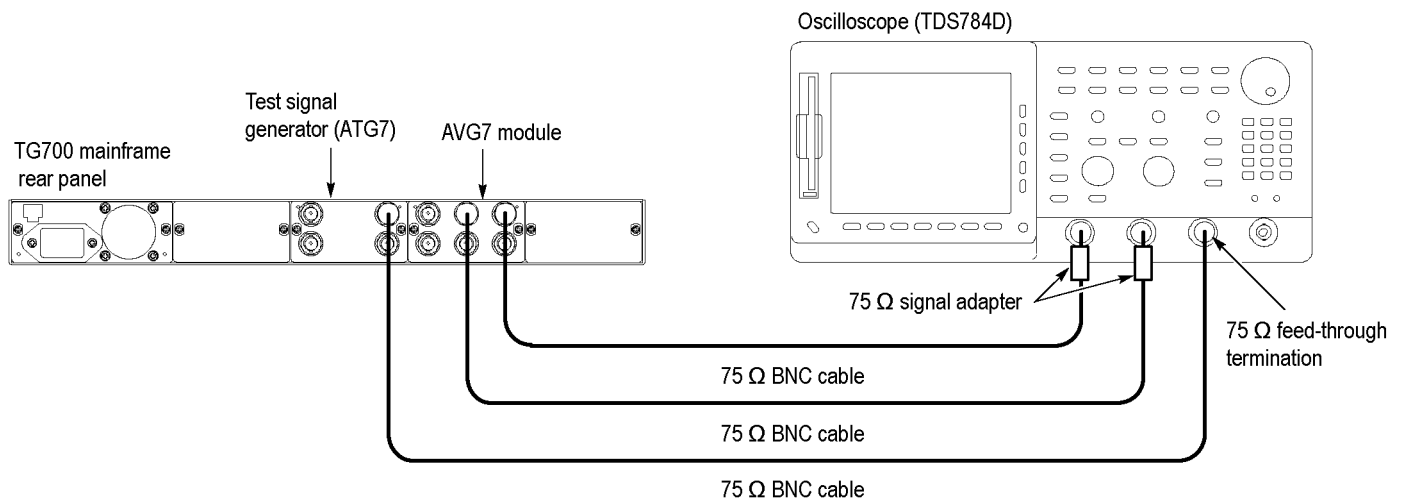

Figure 15: Equipment connection for verifying the channel-to-channel delay
1. Use the 75 Ω BNC cable and the 75 Ω signal adapter to connect the upper CH 1 connector on the AVG7 Generator module to the CH 1 input connector on the oscilloscope as shown in the following figure. (See Figure 15.)
2. Use the 75 Ω BNC cable and the 75 Ω signal adapter to connect the upper CH 2 connector on the AVG7 Generator module to the CH 2 input connector on the oscilloscope as shown in the following figure. (See Figure 15.)